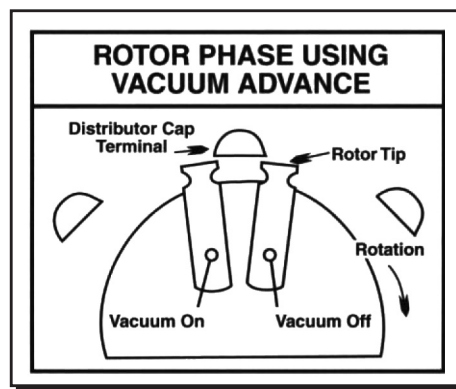

Figure 4 - Distributors with vacuum advance need to be checked with the vacuum connected and disconnected.
**Vacuum Advance:** Vacuum advance affects rotor phasing so it should be checked with the vacuum disconnected and connected. On a distributor that turns clockwise, the rotor tip should be at the right or just after the terminal when the spark occurs with the vacuum disconnected and plugged. With the advance connected and the engine at a steady speed off idle, the rotor tip should be just to the left or before the terminal (Figure 4).